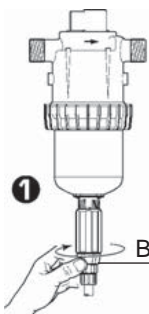

Fig. 12
- Unscrew the blocking ring (**Fig. 12-B**).
Tighten the blocking ring (**Fig. 12-B**).